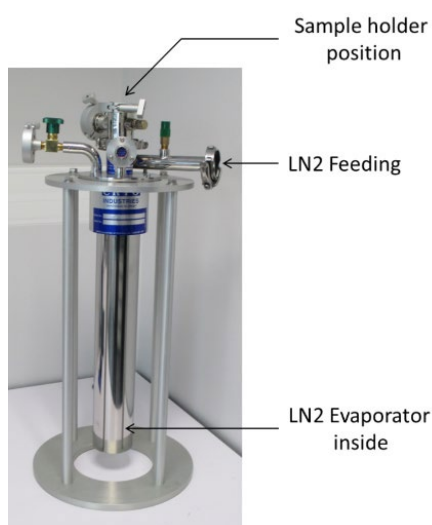

Figure 1 – CRYOPRO's cryostat
- The cryostat is shown in Figure 1. It is connected to a 100 liters liquid nitrogen or liquid helium tank to provide the low temperatures. The chosen cryogenic liquid flows into the bottom of the cryostat's Dewar where it is evaporated by a small heating element.